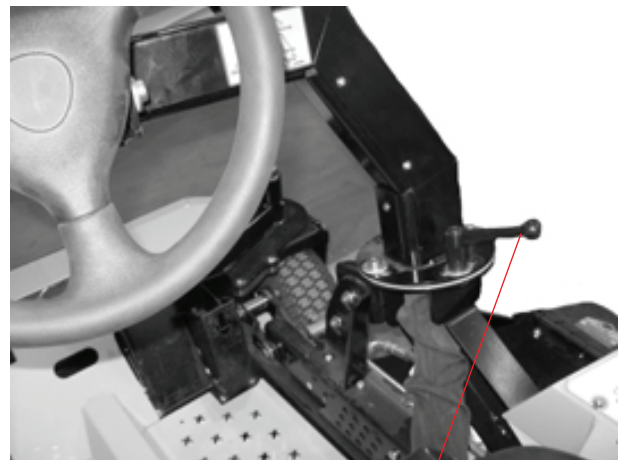

Figure. 3
- The Steering column also has a swing-away function to enhance entry and egress. A ratchet-type adjustable handle is used to release or tighten the steering column which will allow it to swing away or swing back. See Figure 3 below.